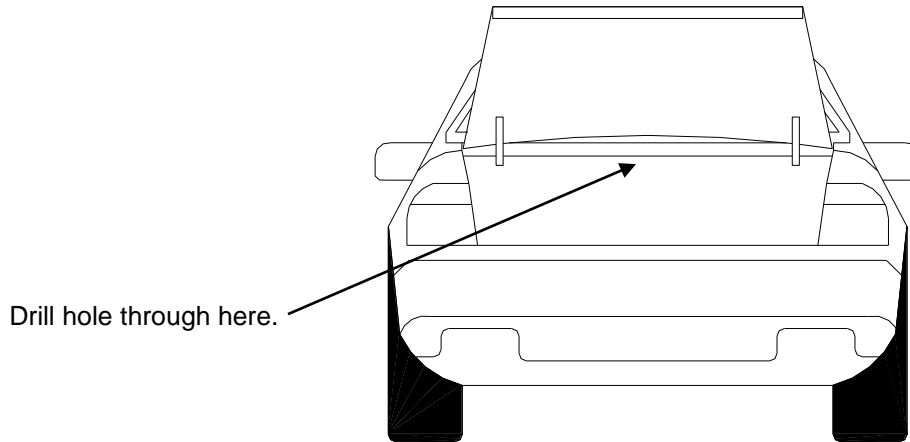

Figure 3
2. Install the magnetic antenna base from the underside of the deck. See figure 3 below.